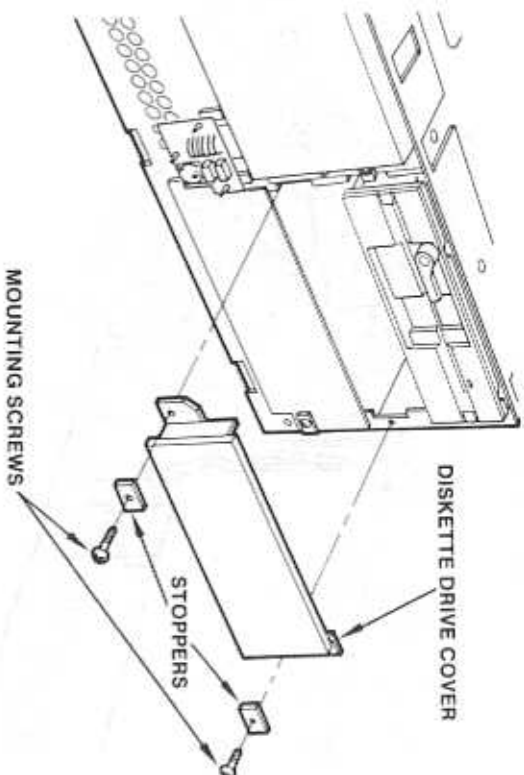

Figure 11-8. Cover Plate Removal
1. Remove the diskette drive cover below drive A (Figure 11-8).